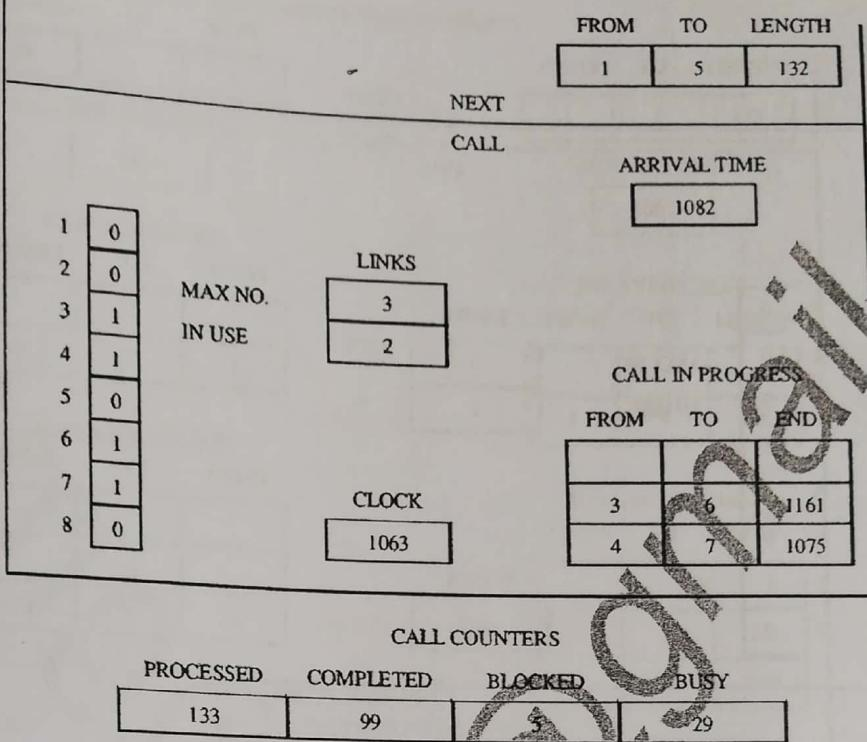

Figure 5: System State
- The new state of the system is shown in figure 5.